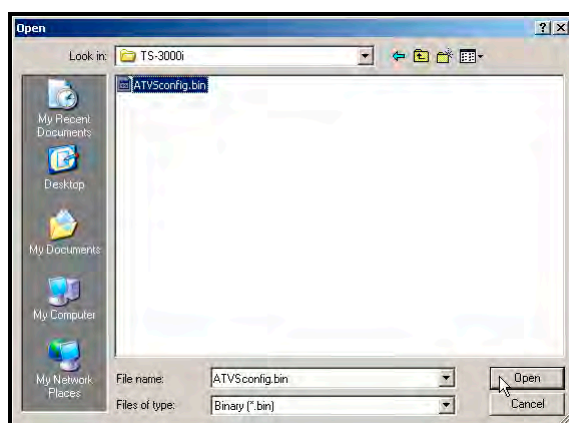

Figure 5-12. Windows Open Dialog.
- Step 3. Browse to select the shared clock file using the Windows Open dialog (see *Figure 5-12*). For example, this file could be a configuration file labeled "ATVSCConfig.bin" and in this example, this file was previously created as a shared configuration file using the clock Backup Utility (see Chapter 4: Utility Settings for FTP Server). This "ATVSCConfig.bin" file was created from a TS-3000i clock that was already configured via the web interface. In effect, what this utility is allowing you to do is to replicate the configuration of a previously configured clock to multiple clocks through the Update Configuration function.
- Step 2. Browse to select the clock "*ATVSCConfig.bin*" file using the Windows Open dialog (see *Figure 5-12*).